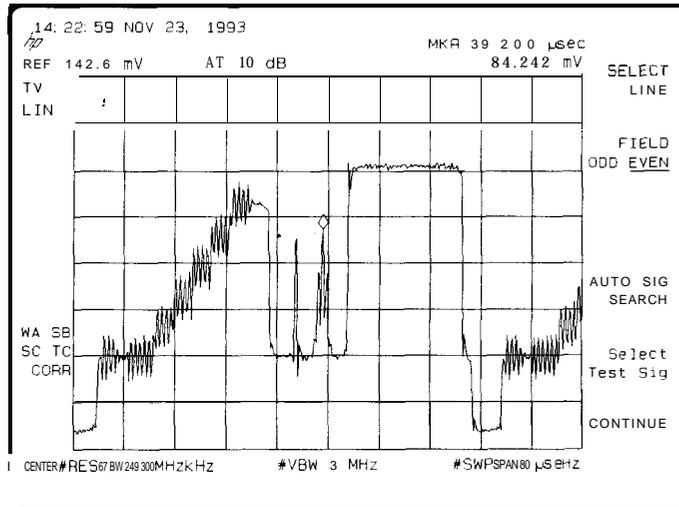
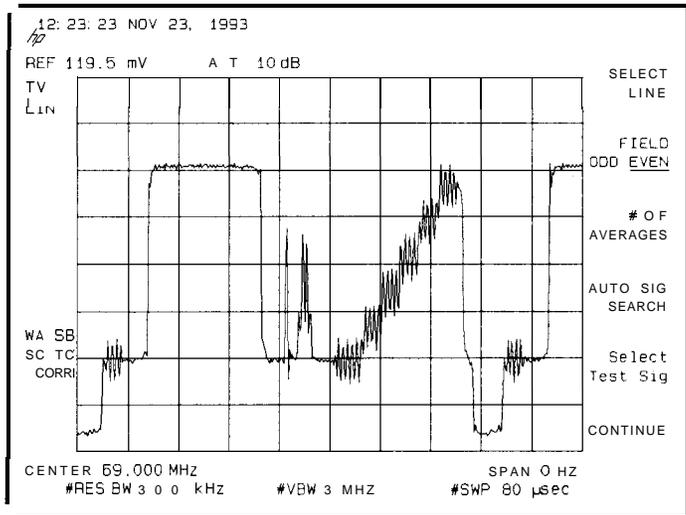

Figure 2-14. FCC Composite Test Signal
Figure 2-15. NTC 7 Composite Test Signal
2. The line number of a test signal is found automatically (if a test signal exists). The search starts at the default line number (line 18). If a test signal is not found, the search routine will stop at the first NTC 7 or FCC composite test signal it finds while counting down from line 22 to line 10. Figure 2-14 shows the FCC composite test signal; Figure 2-15 shows the NTC 7 composite test signal.